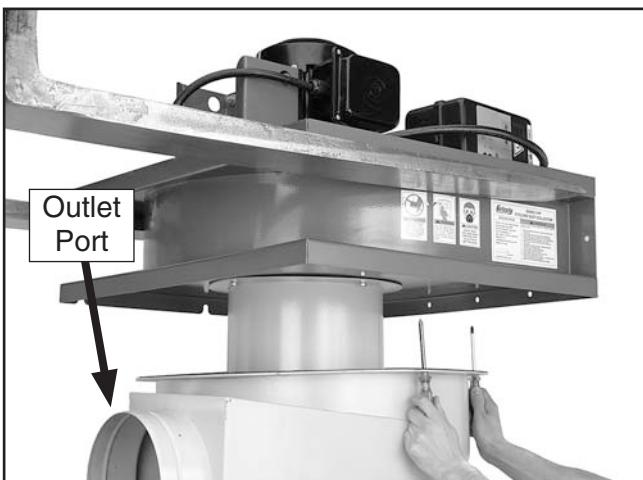

Figure 25. Aligning the mounting holes.
16. Using two punches or Phillips screwdrivers as alignment guides (see **Figure 25**), lower the blower housing assembly onto the intake barrel assembly.